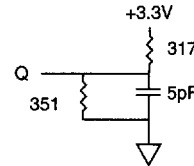

Fig. 2 OUTPUT LOAD EQUIVALENT
- 1HZCE , 1HZOE and 1HZWE are specified with $C_L = 5pF$ as in Fig. 2. Transition is measured $\pm 200mV$ from steady state voltage.